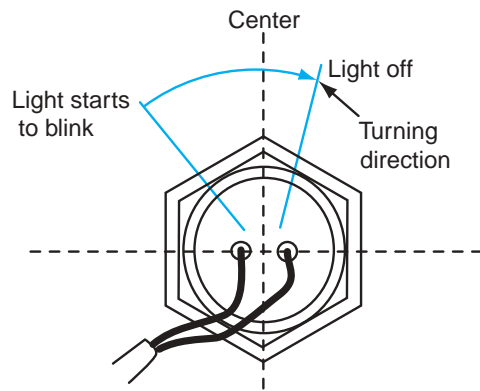

Figure 13-35 Adjusting the front sub steering angle sensor.
11. Slowly rotate the front sub steering angle sensor counterclockwise until the 4WS indicator light begins to blink, and then mark the sensor in relation to the housing (Figure 13-35). Set the front sub steering angle sensor in the center of the range from where the light went off to where the light began to blink. Hold the sensor in this position and tighten the locknut to the specified torque.